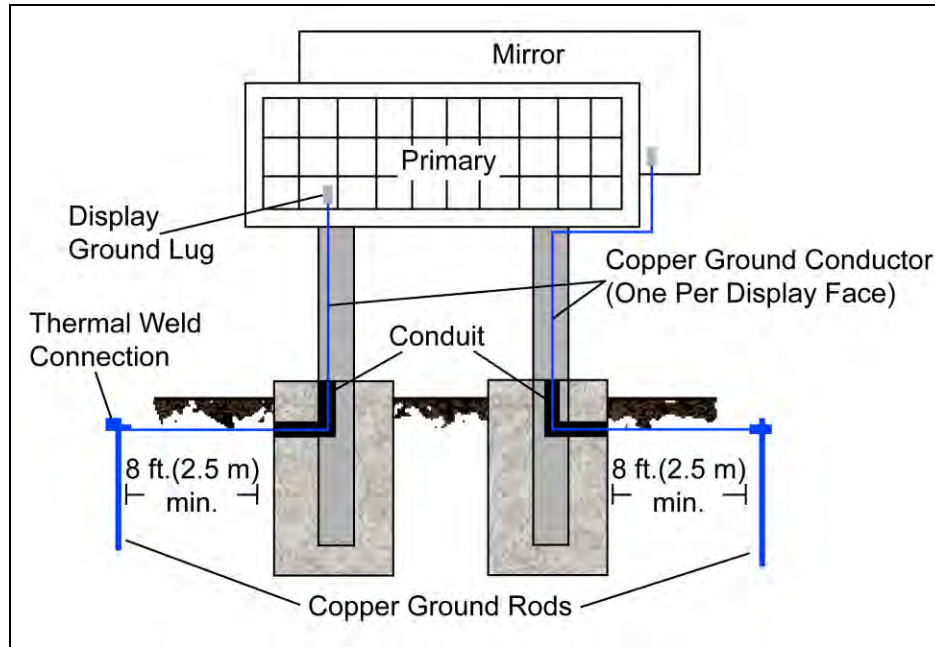

Figure 13: Correct Grounding
The display system must be connected to earth ground as shown in **Figure 13**. Proper grounding protects the equipment from damaging electrical disturbances and lightning. Daktronics requires a resistance to ground of 10 ohms or less. The display must be properly grounded or the warranty will be null and void.
- **Resistance to ground 10 ohms or less:** This is required by Daktronics for proper display performance. If the resistance to ground is higher than 10 ohms, it is necessary to install additional grounding electrodes to reduce resistance. The grounding electrode must be installed within 25 feet (7.6 m) of the display's base and must be connected to the ground lug on the back of the display, as shown in **Figure 13**.